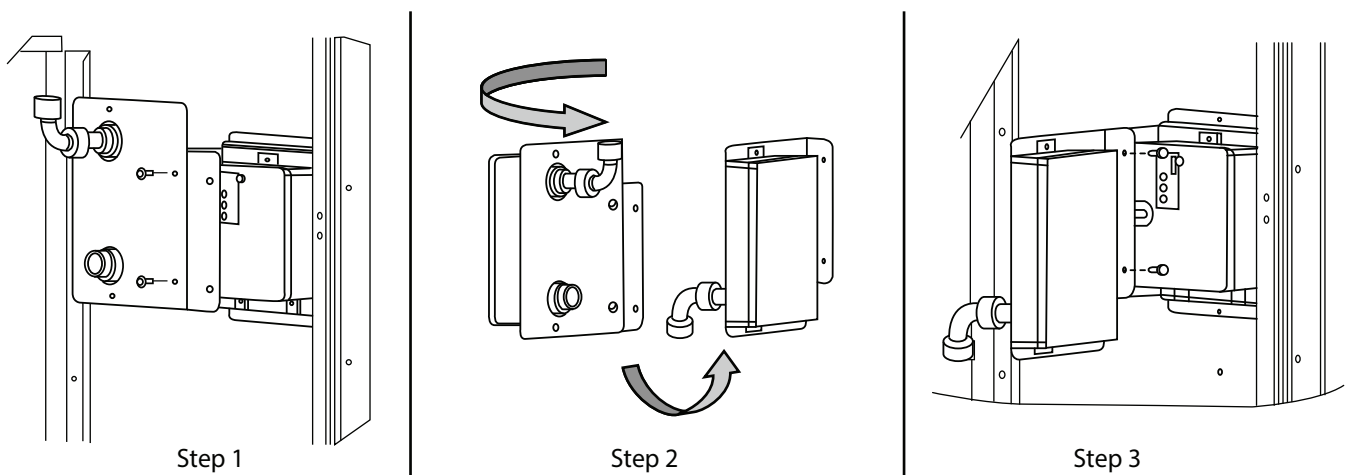

Fig. 69 — Completing Installation of Return Air Smoke Sensor
1. Unscrew the two screws holding the Return Air Smoke Detector assembly. See Fig. 69, Step 1.
3. Turn the assembly 90 and then rotate end to end. Make sure that the elbow fitting is pointing down. See Fig. 69, Step 2.
4. Screw the sensor and detector plate into its operating position using screws from Step 1. See Fig. 69, Step 3.